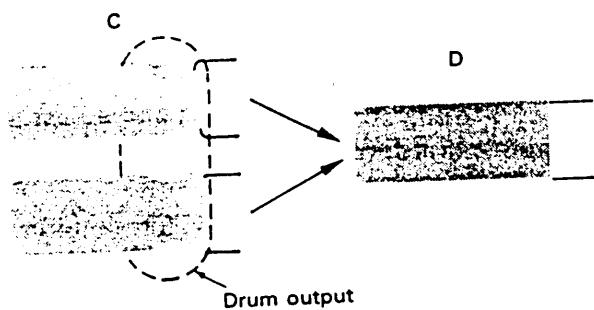

Fig. 7-5 Drum output adjustment
- a) In the same manner as for the drum input, turn the take-up guide roller to adjust the falling portion (drum output portion) of the FM waveform. Incorrect examples are shown by C in Fig. 7-5, while D indicates the correct adjustment.